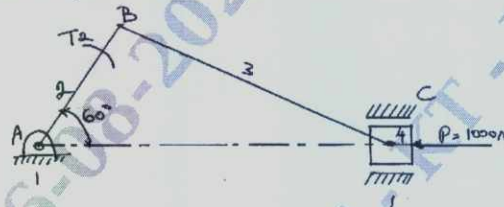

Fig. Q1 (b)
- b. Determine the required input torque on the crank of a slider crank mechanism shown in Fig. Q1 (b) for static equilibrium. (14 Marks)